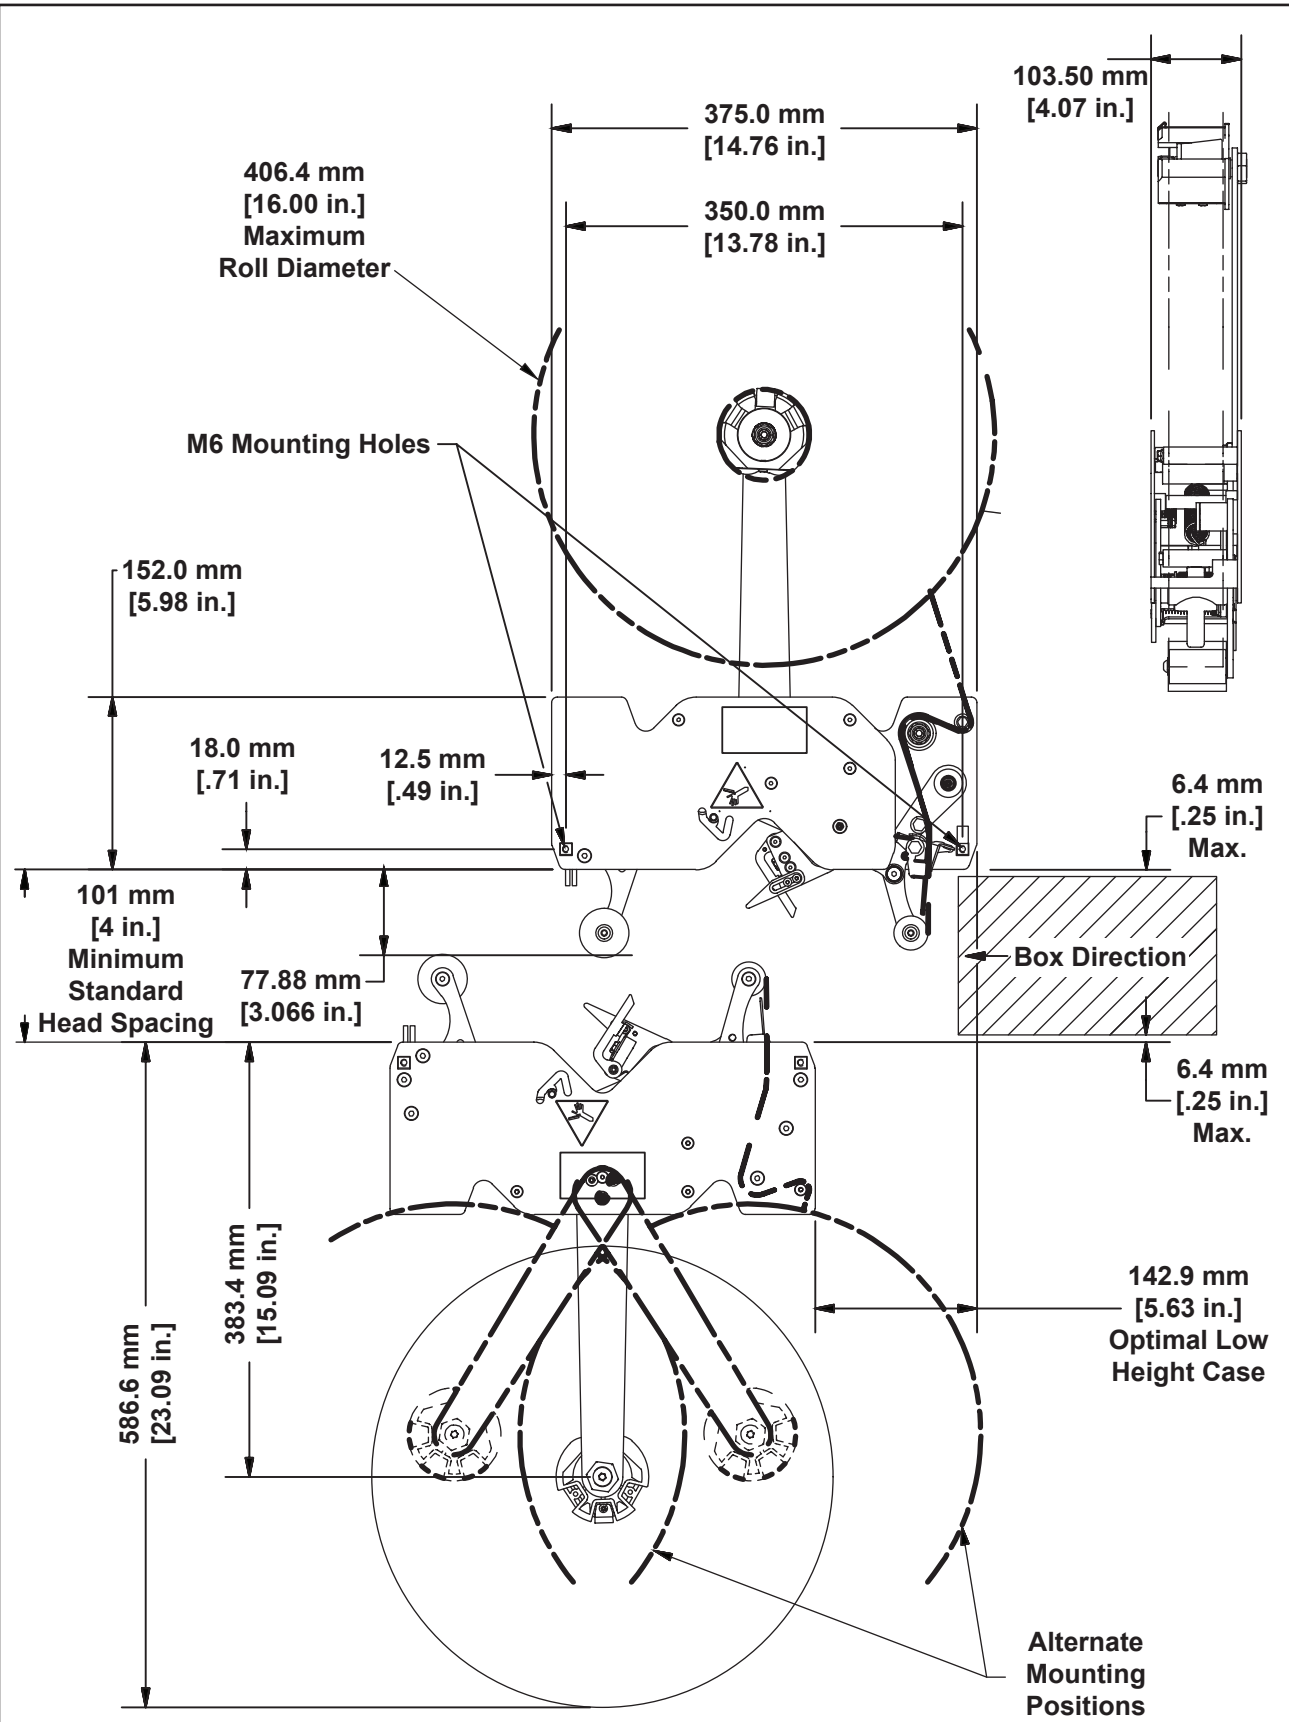

Figure 2-1 Dimensional Drawing
The taping head assembly can be used in converting existing or in custom made machinery. It can be mounted for top taping or bottom taping. Refer to "Box Size Capacities," as well as **Figure 2-1** in the Specifications section, for following points making installations:
3. **Figure 2-1** illustrates the typical mounting relationship for opposing taping head assemblies to allow taping of box heights (see specifications). The taping heads must be completely staggered so only one tape seal is being applied at one time.